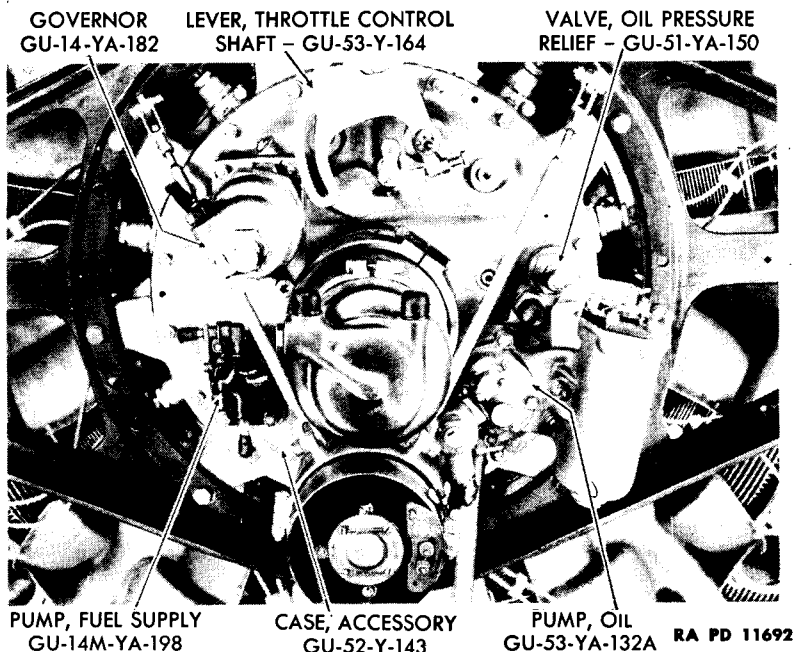

Figure 5—The Accessory Case with Accessories Mounted
(11) **ACCESSORY CASE** (fig. 5). The accessory case is an aluminum alloy casting, attached to the rear mounting section of the crankcase and contains the entire gear train. Standard SAE flange mountings are provided for the starter, generator and fuel supply pump. The accessory case also carries the oil pump, oil pressure relief valve, throttle control shaft, outlet oil connections and case vent holes and has a mounting for the governor. Directly above the starter flange is a small removable inspection plate to permit adjustment of the fuel cam ring. Drilled ducts are provided for the oil from the lubricating oil pressure pump to the crankshaft and intermediate and idler gear bushings. A cored duct is incorporated for the bypassed oil and the oil from the scavenging pump.